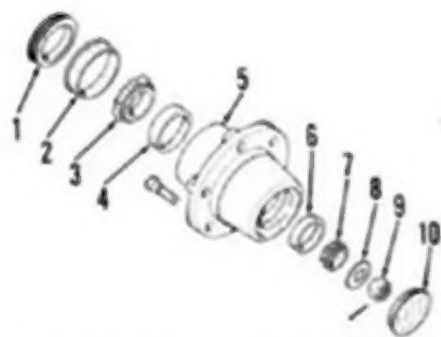

Fig. 3—Exploded view of front wheel hub and bearings.
4. Front wheel bearings should be removed, cleaned and repacked with IH251H EP or equivalent No. 2 multi-purpose lithium grease each 800 hours of operation. Raise front of tractor and remove cap (10—Fig. 3), nut (9), washer (8) and outer bearing cone (7). Lift off wheel and hub assembly and remove inner bearing cone (3). Clean and inspect all parts and renew any showing excessive wear or other damage.